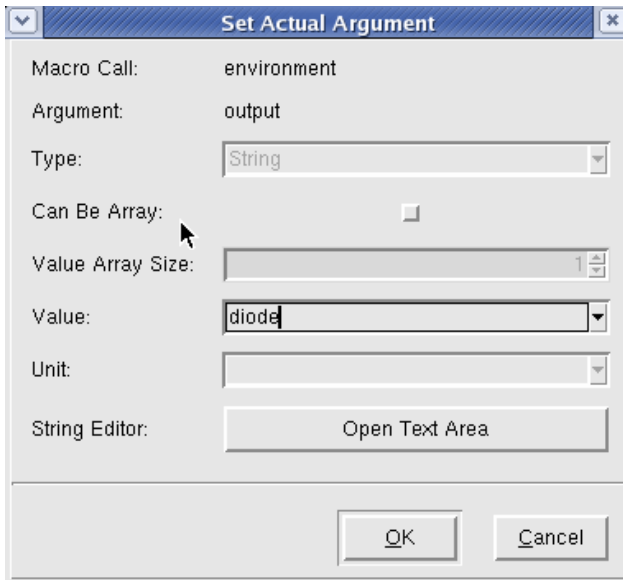

Figure 34: Setting the output argument.
5. Double click on output and save it to diode (Figure 34). This saves all output files ad @diode@.